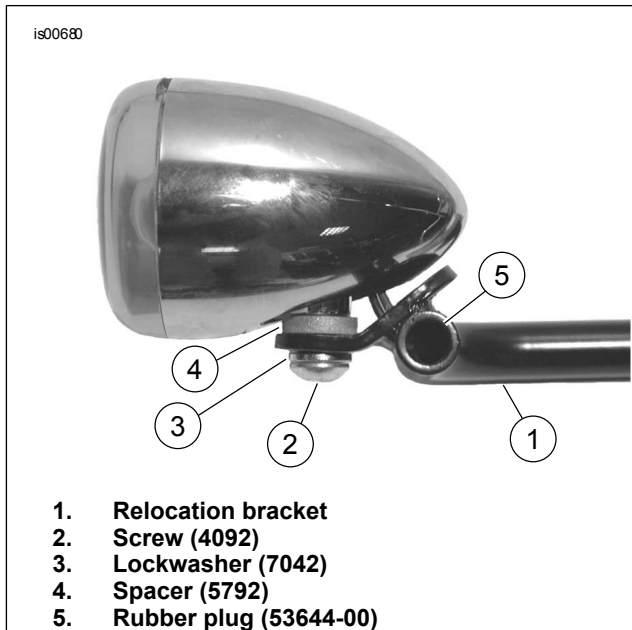

Figure 6. Install 2-3/8 Inch Turn Signals
- h. See Figure 6. Install turn signal to relocation bracket (1) using screw (2), lockwasher (3), and spacer (4). Spacer should be installed between turn signal and relocation bracket. Tighten securely.
- i. Install rubber plug (5) to cover opening of tube on relocation bar.